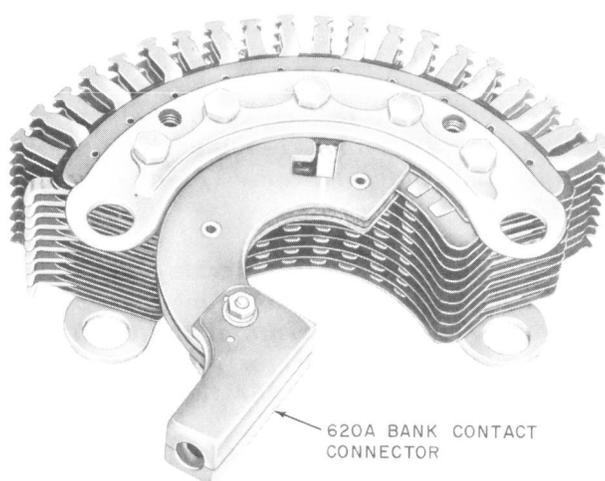

Fig. 14—Connecting to Terminal of the Step-by-Step Line Finder Switch Bank
3.02 When connecting to springs and terminals of apparatus, use the 419A test connector to connect to relay contact springs, contact terminals, or the springs of other apparatus for which this tool is applicable. In some cases, the 357 spring contact clip and insulator may be used instead of the 419A test connector. Use the 364 spade terminal to connect to binding posts of portable test apparatus and the 365 and KS-6278 connecting clips for connecting to terminals of miscellaneous apparatus (jacks, repeating coils, etc). Connect stud-ended connecting tools to a test cord equipped with a 360-type tool. To insulate the jaw of a connecting clip, insert the clip in the 108 cord tip. Support or fasten the test cord so the weight of the cord will not disconnect the connecting tool from the apparatus under test. For step-by-step line finder switch banks, use the 620A bank contact connector as shown in Fig. 14. Insert the connector in the proper level of the bank, starting the connector over the bank insulator so the jaws of the connector span the contacts. Rotate the connector until the metal contacts rest on the terminals to be tested.